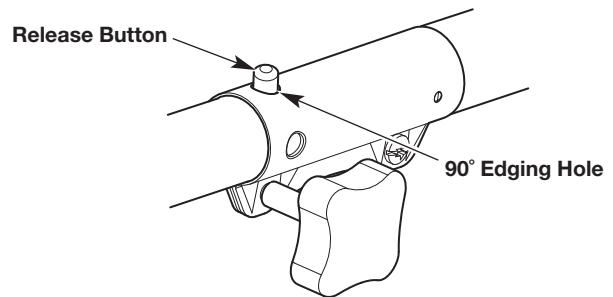

Fig. 16
3. Rotate the attachment until the release button snaps firmly into the 90° edging hole (Fig. 16).